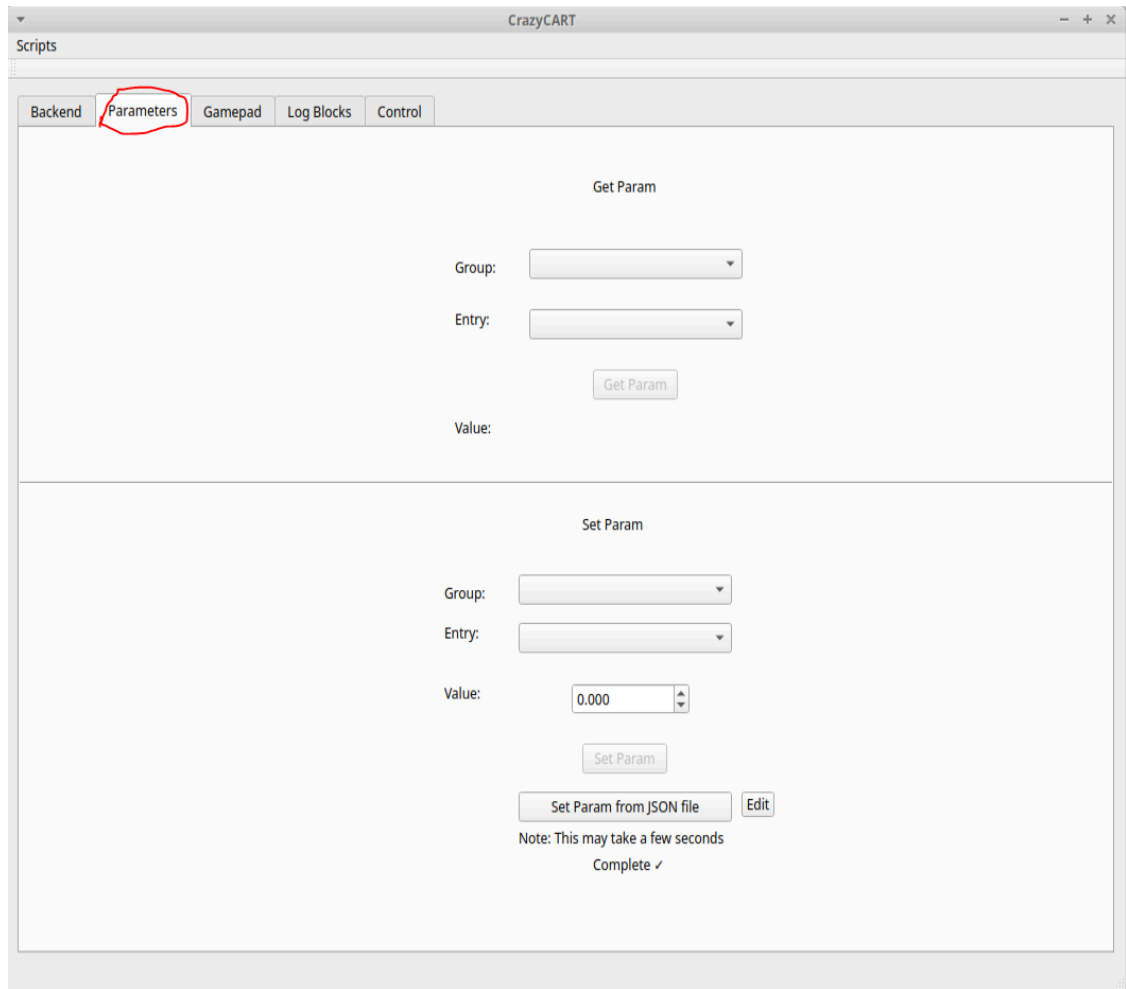

Figure 6: Parameters Tab
1. Navigate to the Parameters tab, as shown in Figure 6.